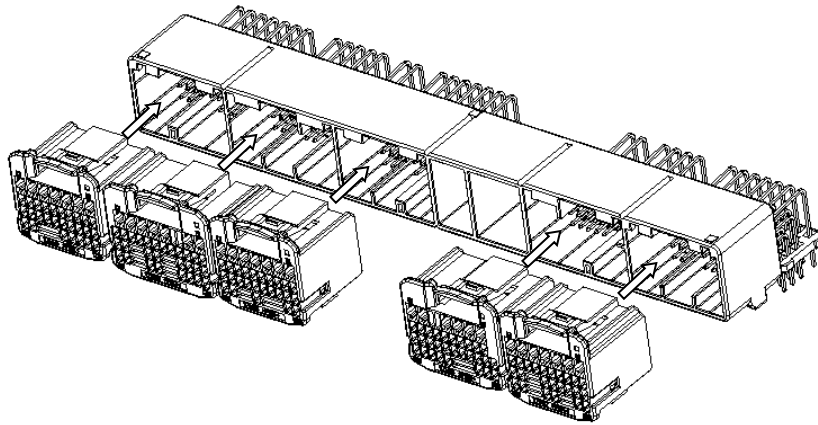

Fig.17
- (3) Insert the proper female housing into the male housing straight with same direction as shown in Fig.17. The operation is finished when you hear the click sound and can not insert further. When you can not insert the housing, do not insert by force, and check the items in (1), (2).